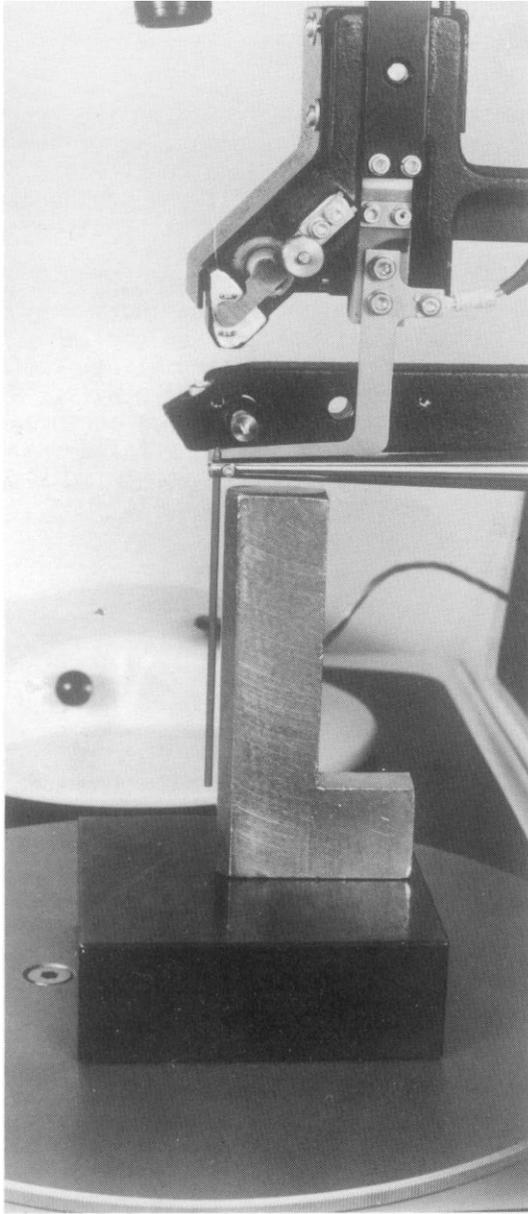

FIG. 6-1 TRANSDUCER INSERTION AND LEVELING ADJUSTMENTS
6.1.1.5 Adjust insertion depth of the transducer in the u-bolt so that the verticality pin is just in line with the EFO electrode and the drag jaws, viewed from the right (Fig 6-1).
- 6.1.1.10 To level the transducer, view it from the side against a square set on the workholder table (Fig 6-1). Loosen the lock nut on the leveling screw so that when it touches the contact pin of the bonding head, the verticality pin lines up with the square set. Loosen the capillary set screw and remove the verticality pin from the transducer. Make sure that the ground connection is kept tight under the nut on the leveling screw (Fig 3-10).